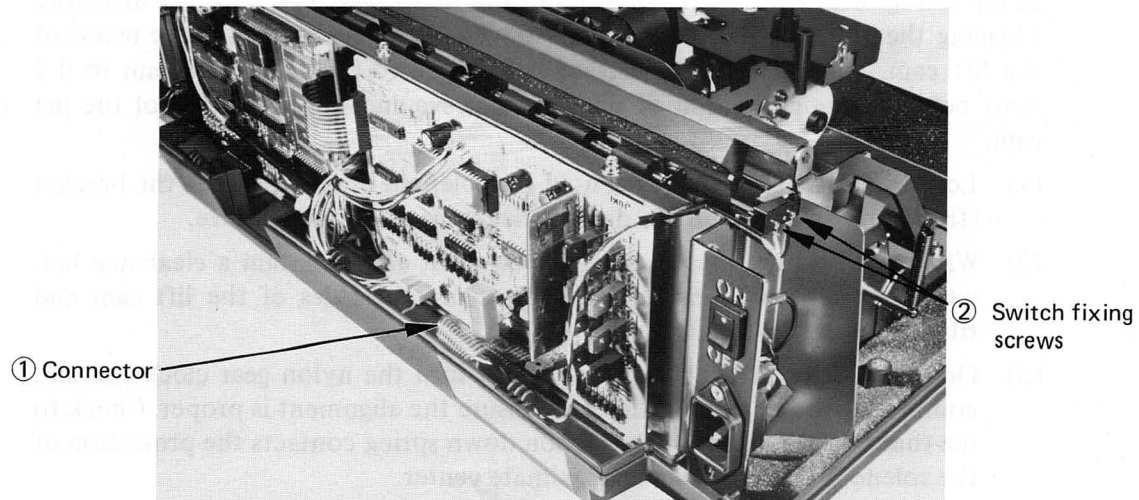

Fig. 5.40
- Step 1. Take off the circuit board cover, and remove connector ①. (Fig. 5.40)
- Step 2. Remove two switch fixing screws ② to release the paper end switch. (Fig. 5.40)